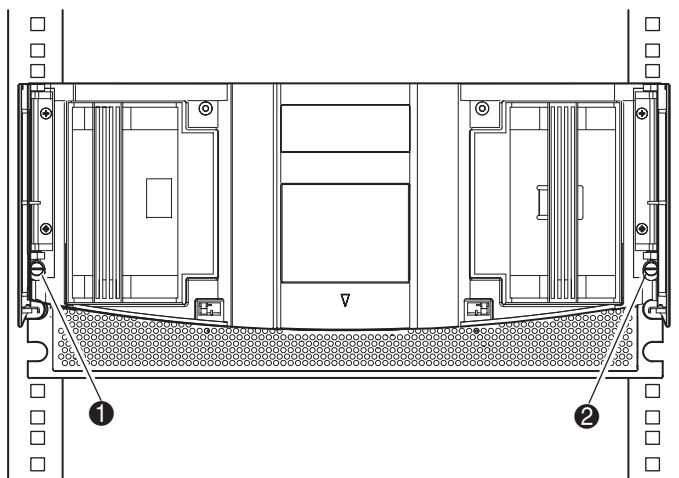

Figure 2-5. Securing the library
10. With the doors open, secure the front panel to the storage cabinet using the two retaining screws (see Figure 2-5). Close the doors.